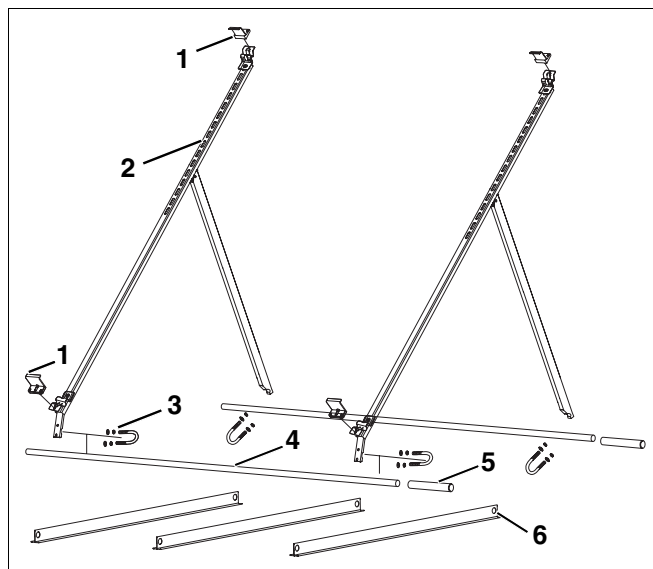

Fig. 2 Flat roof installation set
You require a flat roof installation set (Fig. 2) for each collector.
4.2.1 Flat roof installation set (per collector) – Fig. 2